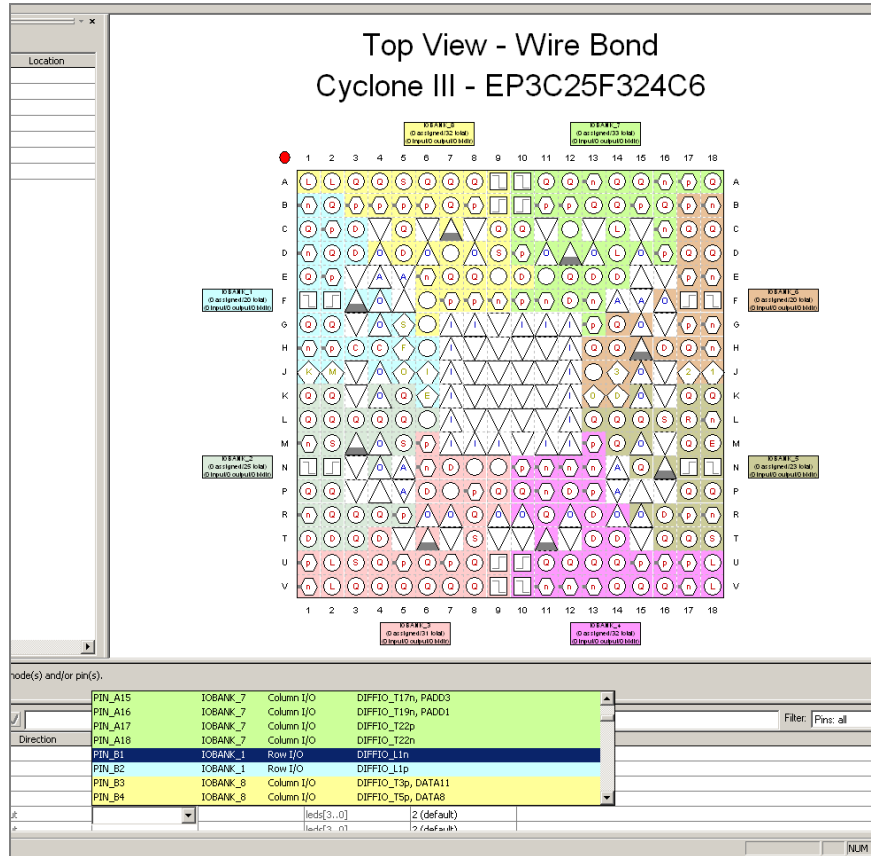

Figure 6: Pin Planner and Pin selection drop down menu
- The “Pin Planner” window should appear. Assign the pins to the proper location using the pull down menu located under the “location tab” as shown in Figure 6 below.